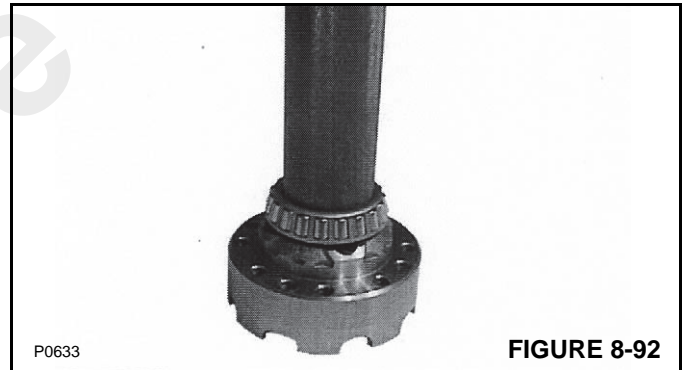

FIGURE 8-92
1. Install the bearing cones of the new taper roller bearings on the differential housing halves (Figure 8-92). Use SPECIAL TOOL P/N 1901771 and a hammer.